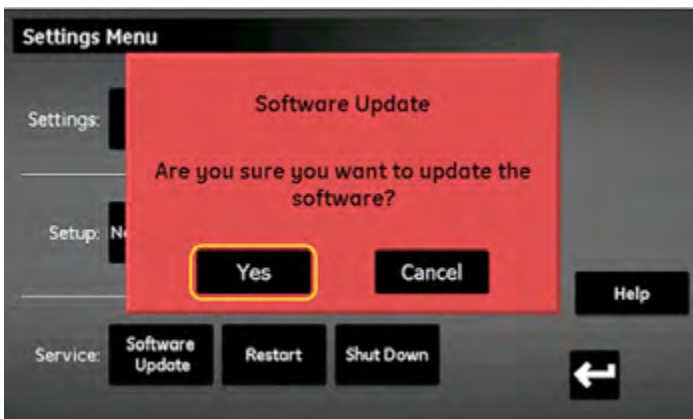

Figure 89: Update confirmation
7. Updating the software will take a few minutes, and the screen shown in *figure 89* below is open during the update.